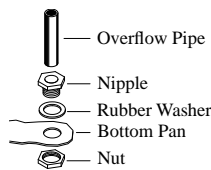

Fig. 5
- **Install overflow assembly.** Remove nut and place nipple through the hole in the pan, with the rubber washer between the pan and the head of the drain nipple (Fig. 5). Screw on nut and draw up tight against bottom of pan. Insert overflow pipe in nipple to retain water. The overflow pipe may be removed to drain pan when necessary. A garden hose may be screwed on the drain nipple to drain water away from your unit.